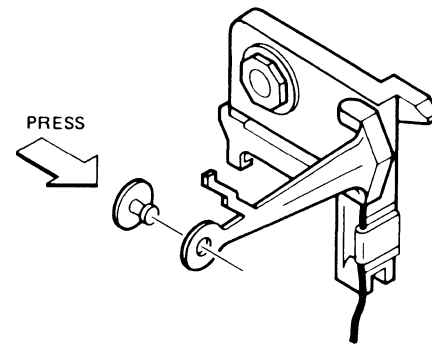

FIGURE 2. HEAD LOAD BUTTON REPLACEMENT
- To install load button, press the button into the arm, from the head side, and it will snap into place. Reference figure 2.